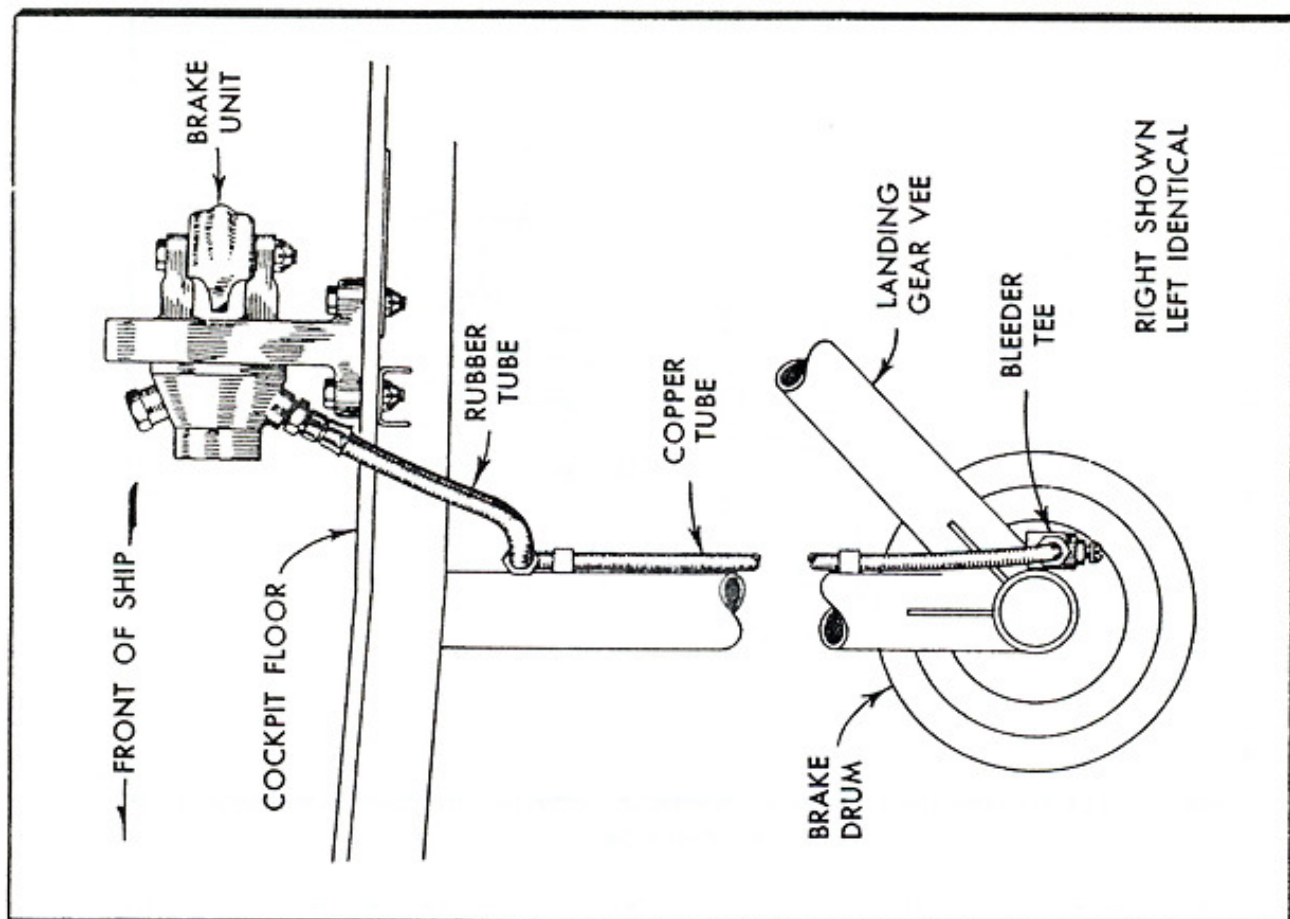

Figure 20—Hydraulic System (L-4H)
- (4) Remove hex-head plug from top of cylinder. (See figure 20.)
- (5) Place waste or cloths around cylinder to prevent overflow from causing damage to floor boards, fabric, or doped surfaces.
- (6) Force fluid out of cylinder until all bubbles disappear by opening the valve on the pressure can or depressing the pump plunger.